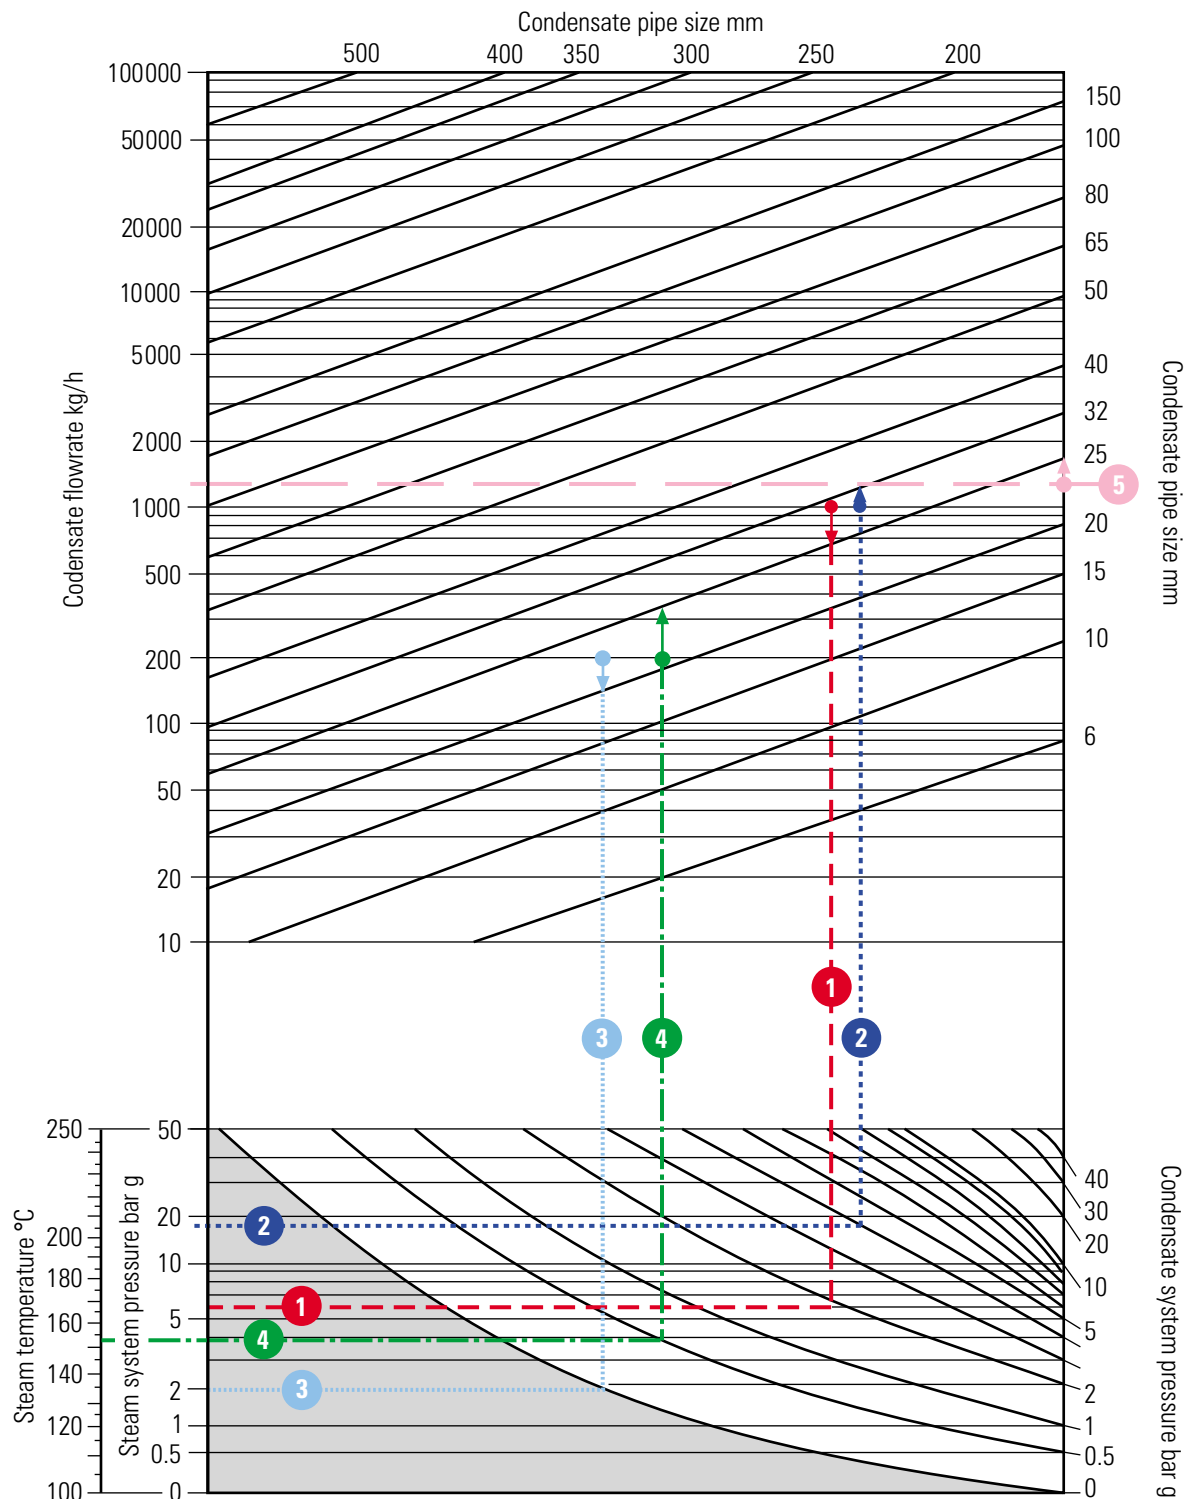

Fig. 14.3.5 Condensate pipe sizing chart
The condensate pipe sizing chart (Figure 14.3.5) can be used to size any type of condensate line, including:
The chart (Figure 14.3.5):
Establish the point where the steam and condensate pressures meet (lower part of the chart, Figure 14.3.5). From this point, move vertically up to the upper chart to meet the required condensate rate. If the discharge line is falling (non-flooded) and the selection is on or between lines, choose the lower line size. If the discharge line is rising, and therefore likely to be flooded, choose the upper line size.
Because the condensate will have lost its flash steam content to atmosphere via the receiver vent, the pump will only be pumping liquid condensate. In this instance, it is only necessary to use the top part of the chart in Figure 14.3.5. As the line from the pump is rising, the upper figure of 25 mm is chosen.
- The common line is sized on the cumulative sizes of the branch lines, and the branch lines are sized from Figure 14.3.5.